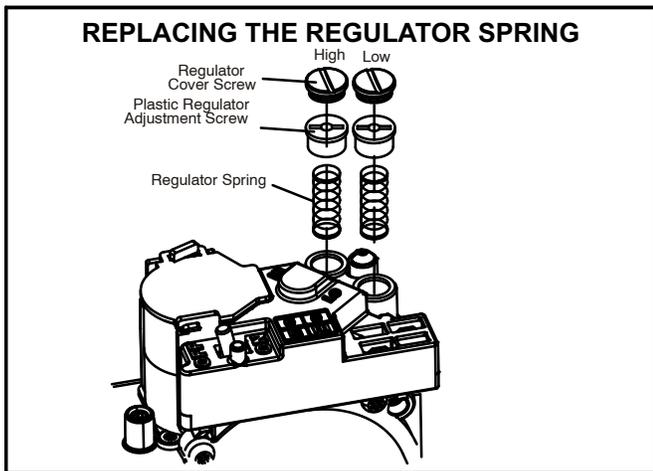

FIGURE 6
- a - Remove both high fire and low fire springs from the gas valve. See figure 6.